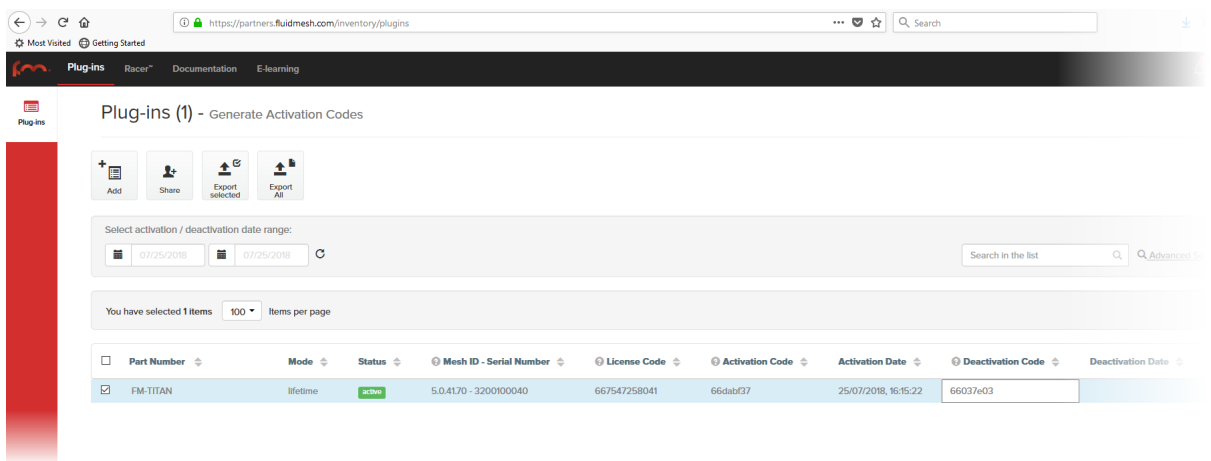

Figure 72. Partner Portal Plug-ins page (deactivation code entry)
8. Enter the Deactivation code for the plug-in in the Deactivation Code field (Figure 72 (page 168)).